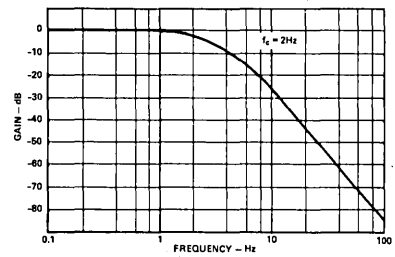

Figure 11. Filter Amplitude Response vs. Frequency
**Low Pass Filter:** The three pole Bessel-type active filter attenuates unwanted high-frequency components of the input signal above its cutoff frequency ( $-3dB$ ) with  $60dB/decade$  roll-off. With a 2Hz filter, attenuation of  $70dB$  at  $60Hz$  is obtained, settling time is  $600ms$  to  $0.1\%$  of final value with less than  $1\%$  overshoot response to step inputs. Figure 11 shows the filter response.